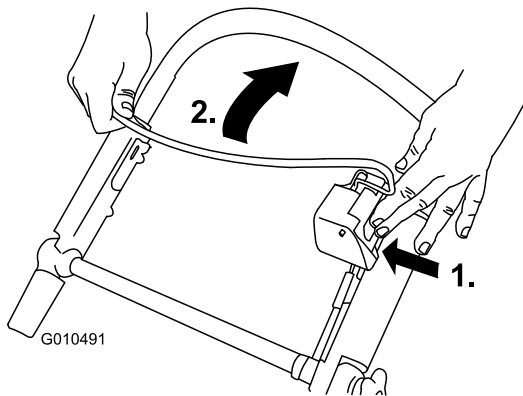

Figure 20
2. Turn the fuel valve lever to the On position (Figure 20).
1. Push the blade-control button and pull the blade-control bar to the handle (Figure 20).